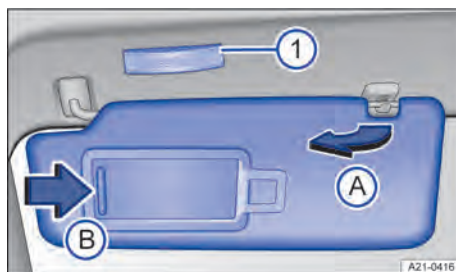

Fig. 98 In the roof at the front: Sun visor
2. Pull out of the bracket and swing over towards the door → Fig. 98 A.
1. Slide the cover open in the direction of the arrow → Fig. 98 B.
The light → Fig. 98 ① will go out when the vanity mirror cover is pushed back or the sun visor is folded back up.